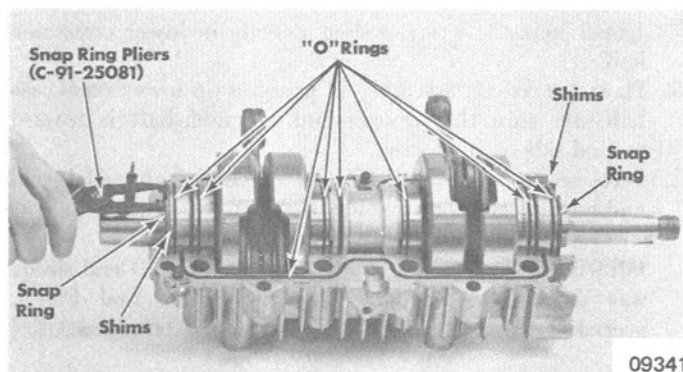

Figure 14. Removing Crankshaft
10. Remove crankshaft end bearing snap ring from each end of crankcase. (Figure 14)
11. Remove shims from PTO side of crankshaft. (Figure 14) Note number and position of shims to aid in reassembly.
12. Remove shims from rewind side of crankshaft. (Figure 14) Note number and position of shims to aid in reassembly.
14. Remove and discard 4 crankshaft end bearing "O" rings (2 each end) and crankcase sealing "O" ring. (Figure 14)
15. Remove and discard 2 crankshaft inner bearing "O" rings (one on each bearing) and "O" ring from distance ring. (Figure 14)